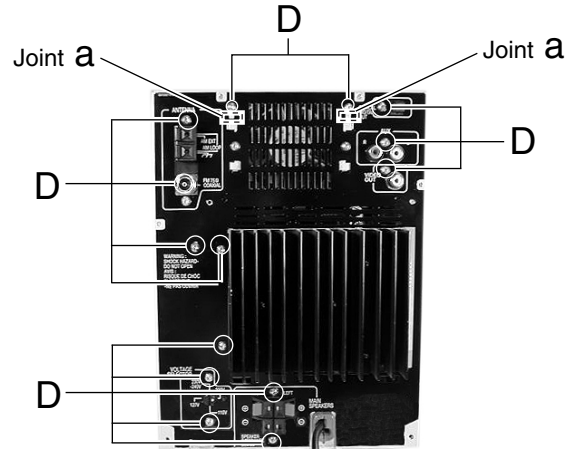

Fig. 6
■ **Removing the rear panel (See Fig. 6~8)**